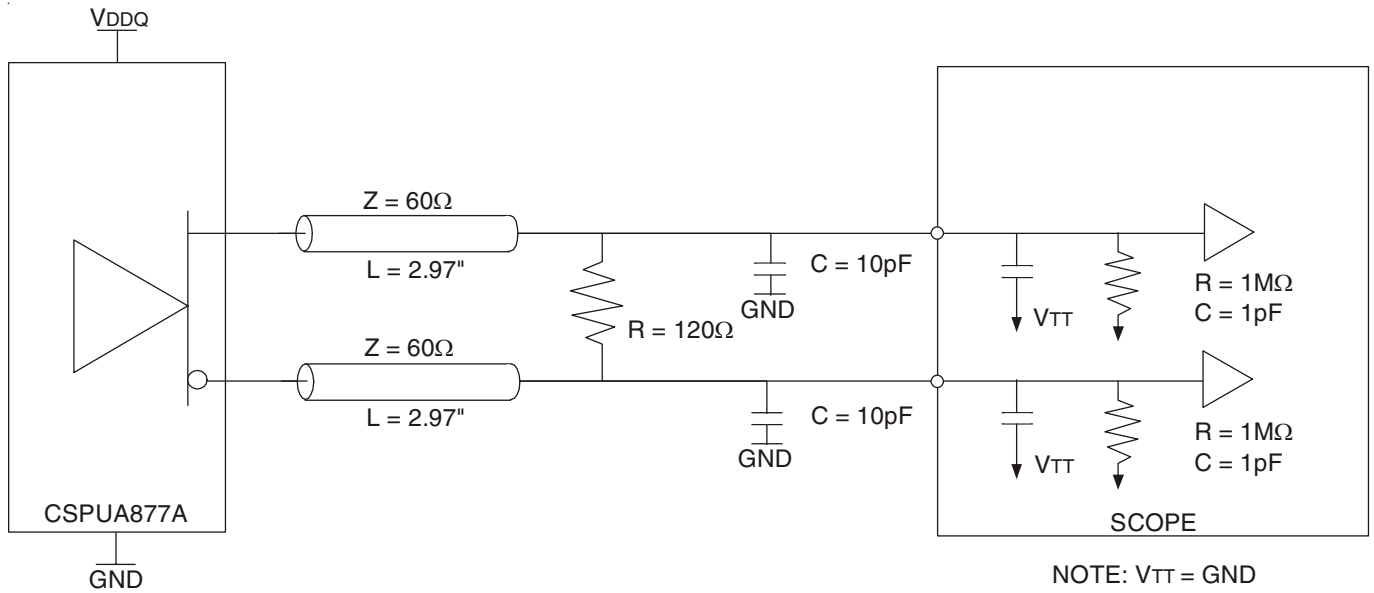

Figure 1: Output Load Test Circuit 1
- There are two different terminations that are used with the above AC tests. The output load shown in figure 1 is used to measure the input and output differential pair cross-voltage only. The output load shown in figure 2 is used to measure all other tests, including input and output slew rates. For consistency, use 50Ω equal length cables with SMA connectors on the test board.
- In the frequency range of 271 - 410MHz, the min and max values for tJIT(PER) and t(∅)DYN, and the max value for tsk(O), must not exceed the corresponding min and max values of the 160 - 270MHz range. Also, the sum of the specified values for | tJIT(PER) |, | t(∅)DYN |, and tsk(O) must meet the requirement for Σt(SU), and the sum of the specified values for | t(∅)DYN | and tsk(O) must meet the requirement for Σt(H).